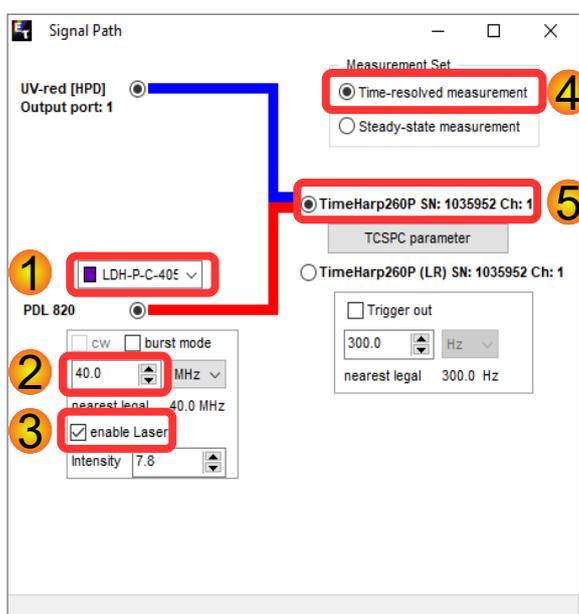

Fig. 30: Signal Path of the FluoTime 250.
- Make sure that the right laser is selected (1, Fig. 30). If not, please choose the laser from the drop down menu
- Set the repetition rate of the laser to 40 MHz (2, Fig. 30)
- Tick the “enable Laser” checkbox (3, Fig. 30)
- Click on the radio buttons “Time-resolved measurement” and “TimeHarp260P” (1 and 1, Fig. 30).